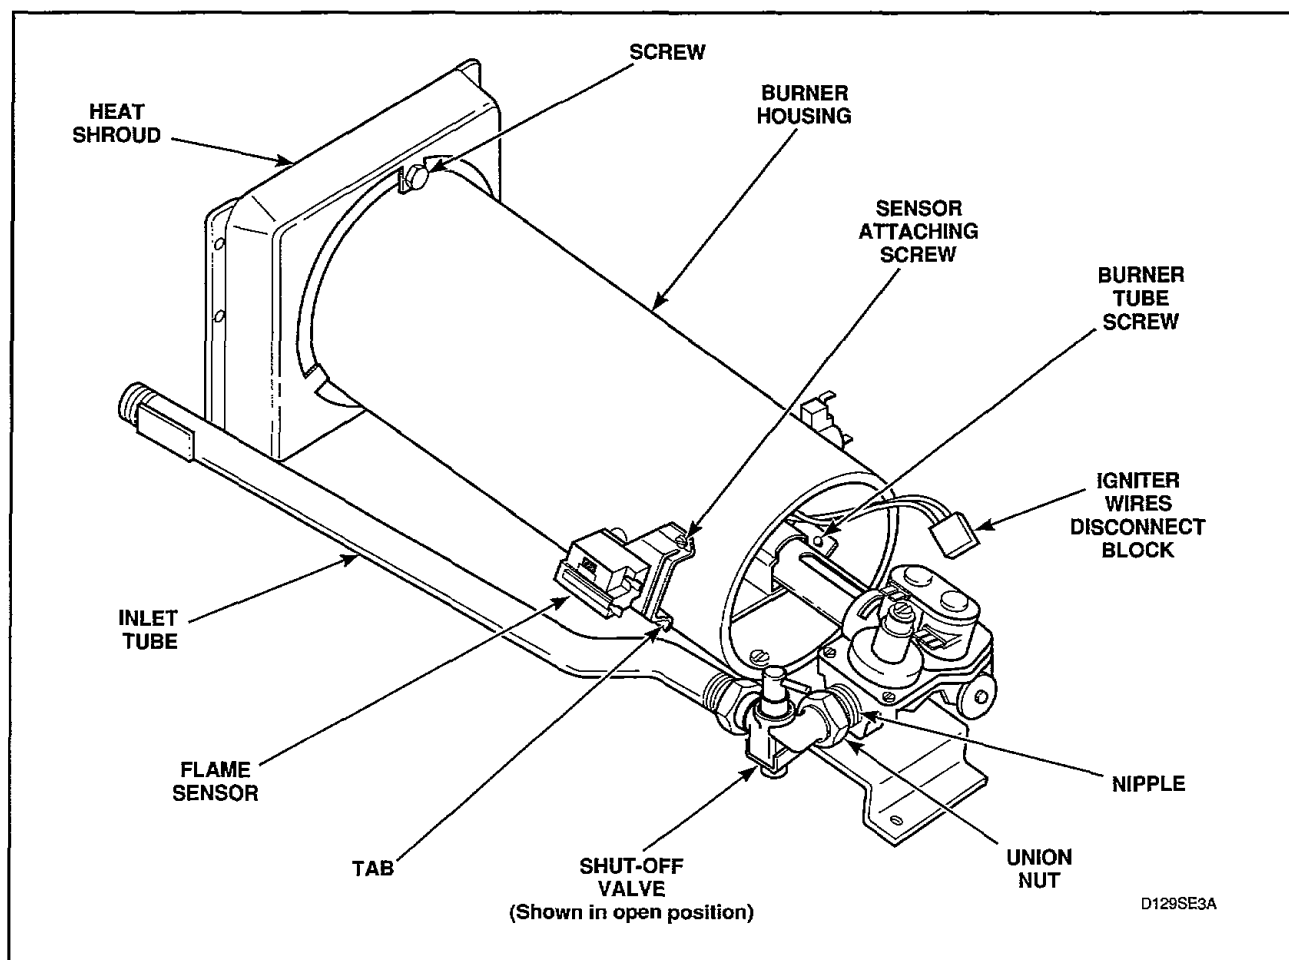

Figure 55
- Close gas shut-off valve, *Figure 55*.
- Remove wires from sensor terminals, *Figure 55*.